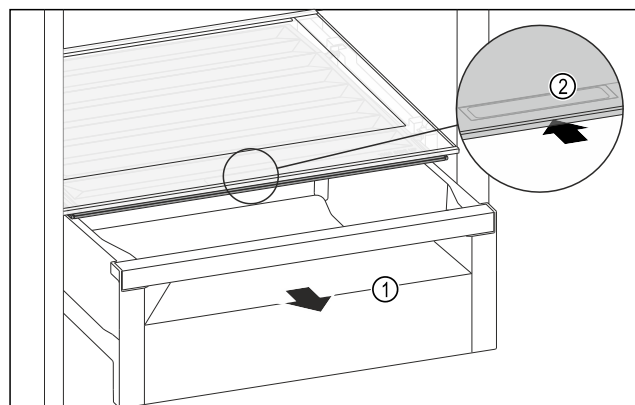

Fig. 201
- ▶ Pull out the drawer Fig. 201 (1).
- ▶ Grasp the recessed grip *Fig. 201 (2)* on the compartment lid and push the compartment lid backwards at the same time.